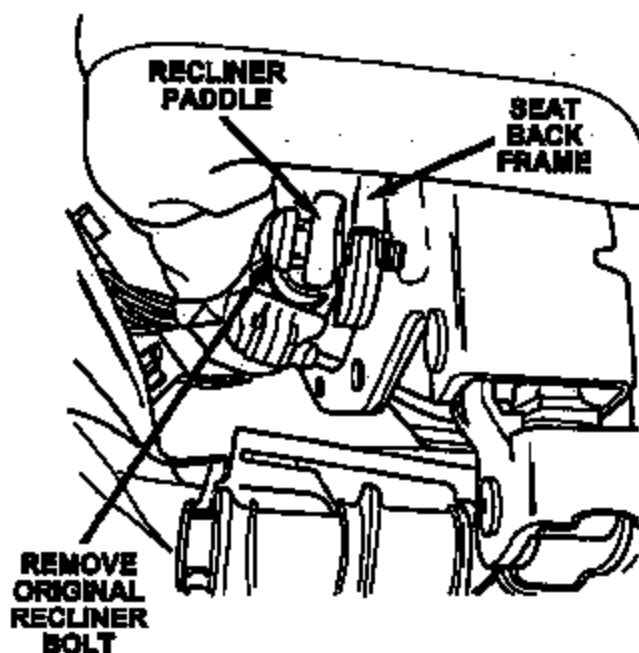

Figure 2
4. Using a 1/2" drive air ratchet and a T30 Torx bit (Snap-on P/N TTX30E or equivalent), remove the outboard recliner paddle-to-seat back frame bolt (Figure 2).